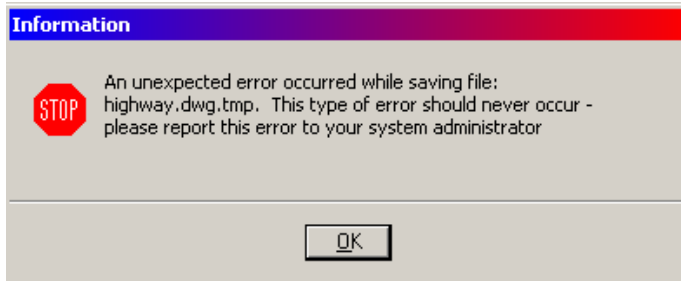

Figure 13-20: Unexpected Error message – Make note of file name
- ① *Occasionally you will receive a message (Figure 13-20) when a file doesn't get converted. Make note of which files fail during the conversion process. This message is very common. It may be because you are in a file that is referencing a file you are converting. Click OK.*